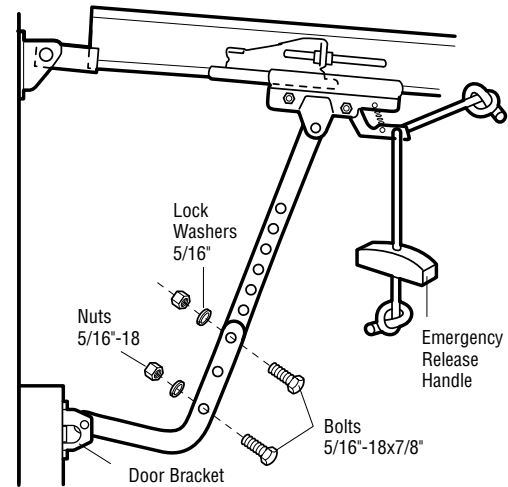

Figure 2
If your installation doesn't require vertical reinforcement but does need top and bottom fastening holes for the door bracket, fasten as shown in Figure 2.
• **Figure 2:**